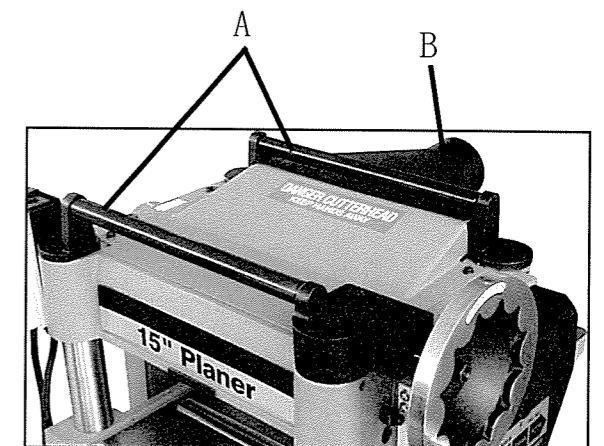

Fig. 30
The two return rollers (A) Fig.30 on the top of the machine serve as convenient stock rest. When planed lumber is returned to the infeed side it saves time and motion, as shown in Fig.30.
Dust collector hood is standard accessory. Assembled to the rear of the planer using Hex Hd. Screws and washers. It provides an efficient means of maintaining a clean and safe work area as shown in Fig.30 (B).